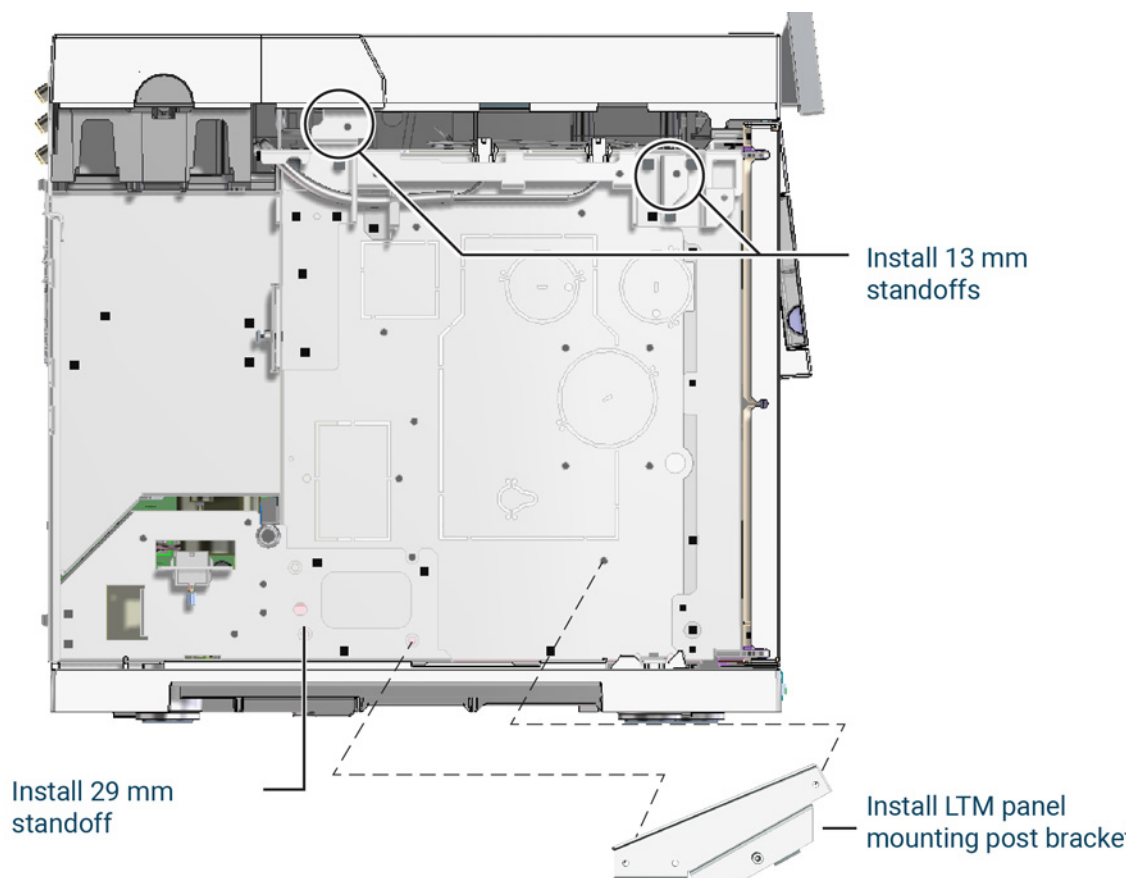

Figure 41. Installing the left side panel standoffs
- Install one 29 mm long standoff provided in the kit into the bottom threaded hole as shown in **Figure 41** below.